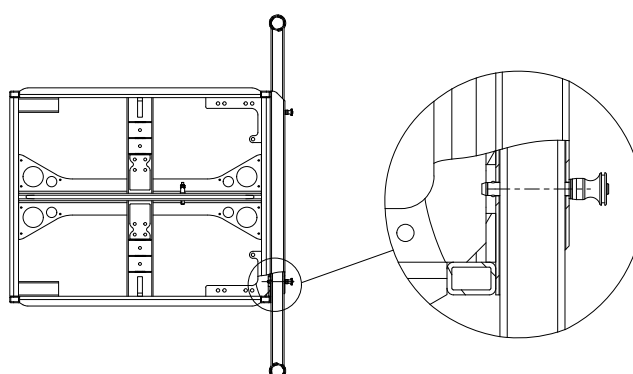

Figure 4.3.3 – Rear-mounting the VERA ORF900 outrigger on the VERA RF900
3. Always insert all quick-lock pins completely through all square tubes (see figure 4.3.3 right).